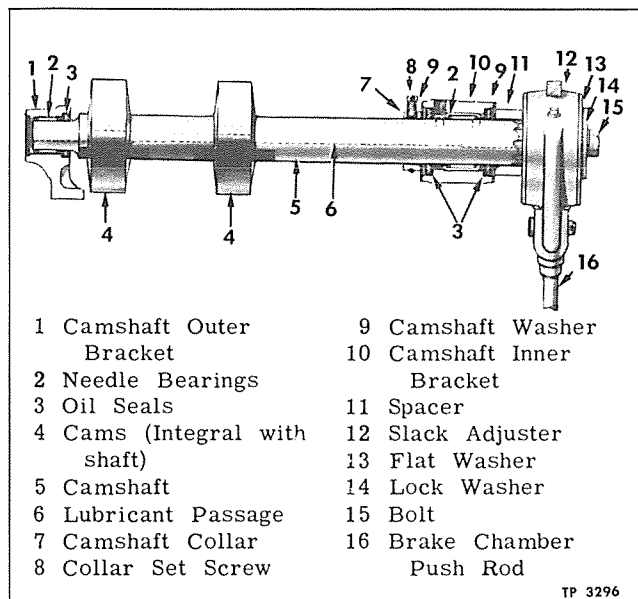
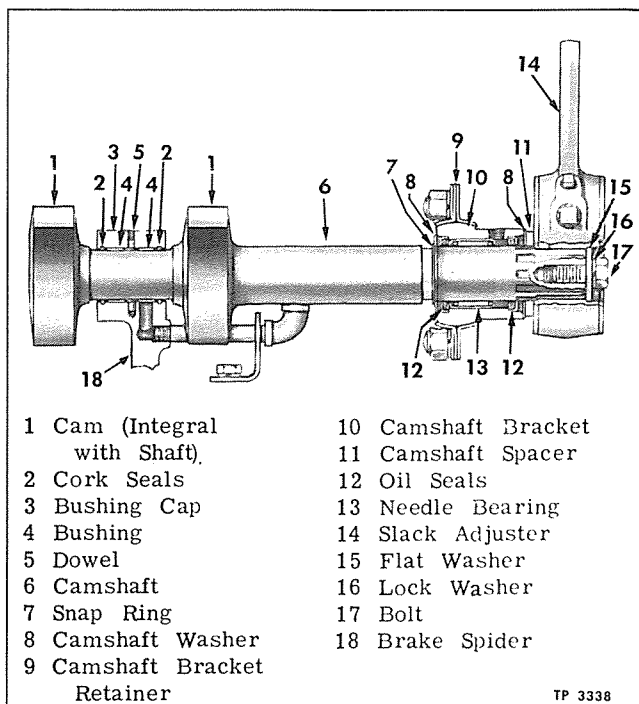

Figure 14—Rear Camshaft and Slack Adjuster Mounting (Early Vehicles)
Figure 15—Rear Camshaft and Slack Adjuster Mounting (Late Vehicles)
Two camshaft mounting arrangements are used on vehicles covered by this manual. On early vehicles (fig. 14), both ends of camshaft are carried in needle bearings. On late vehicles (fig. 15), inner end of camshaft is carried in needle bearings and outer end is mounted in bushings in brake spider. Other differences in construction, method of lubrication, and mounting are readily discernible by comparing figures 14 and 15.
Early Vehicles (Fig. 14)
Late Vehicles (Fig. 15)
4. Examine camshafts for cracks, distortion, or wear at the bearing surfaces and cams. On early vehicles (fig. 14), make sure lubricant passages are open.
REAR CAMSHAFT INSTALLATION Early Vehicles (Fig. 14)